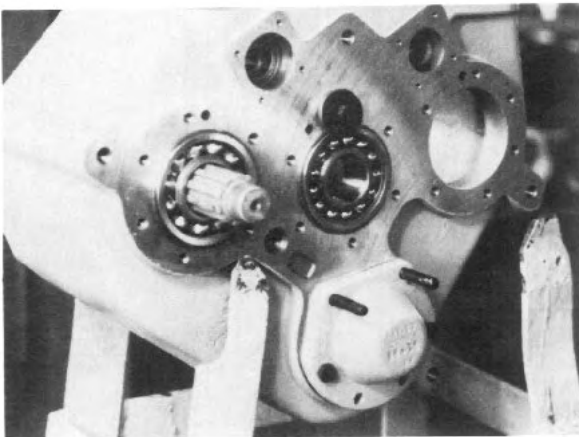

Fig. 8
- Install the double row ball bearing in the housing bore opposite the large opening at the rear of the case. Retain the bearing with a bolt and washers as shown in Fig. 8.